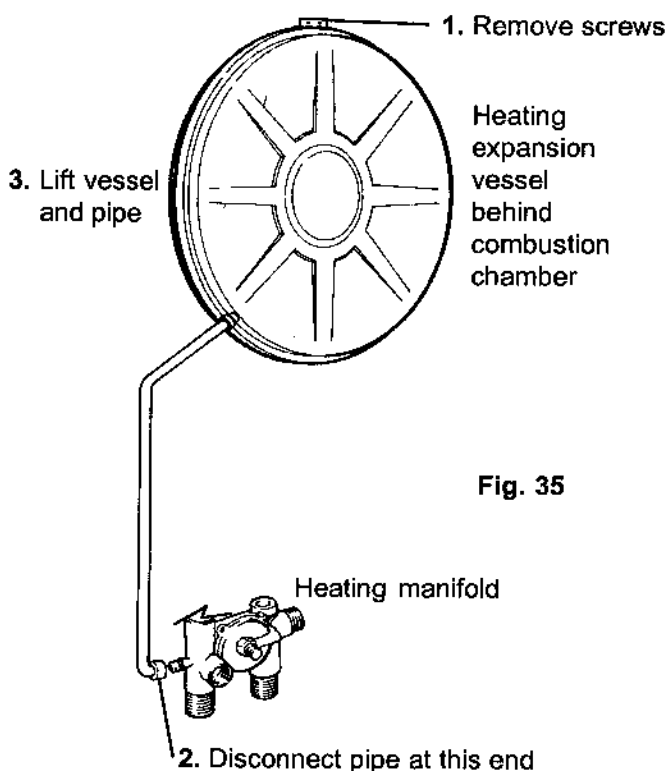

Fig. 35
- 8.16.9 Remove 2 screws securing vessel at top. Disconnect expansion pipe at heating manifold, lift vessel & pipe out of appliance.(fig. 35)
- NOTE:** Fig. 35 shows the expansion vessel from the 14/48 SE, the expansion vessel in the 20/70 SE is square in shape and has two securing brackets (top left and top right).